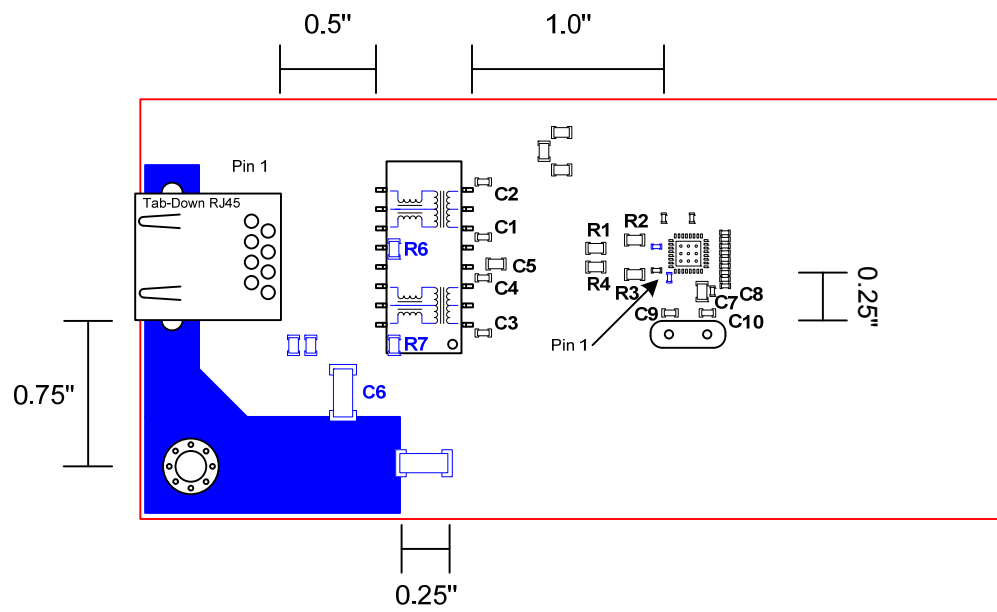

Figure No. 2
3. See Figure No. 2 below for minimum distance requirements related to the RJ45 connector, the magnetics and the LAN8710 Phy.
2. See Figure No. 2 for distance requirements related to the LAN8710 Phy. The crystal and associated components should be located within 0.25" of the LAN8710.